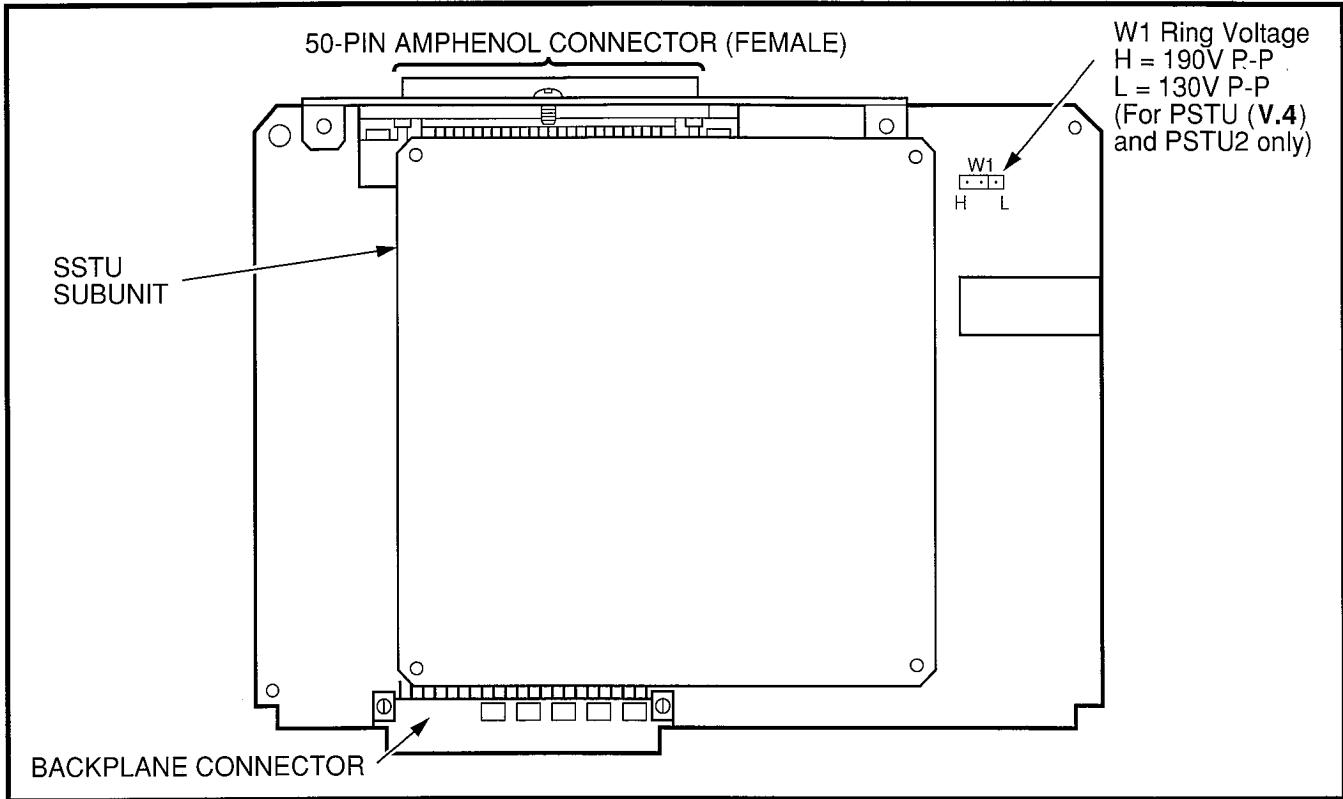

FIGURE 6-6—PSTU (1/2) AND SUBUNIT (SSTU)
5.02 PSTU controls are shown in Figure 6-6 and described in Table 6-C.
- 2) Ensure that the PSTU subunit (SSTU) is securely attached to the PSTU (refer to Figure 6-6).